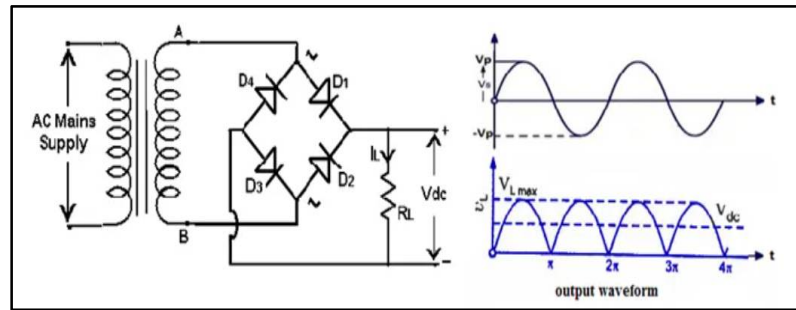

Fig.2.7: Bridge rectifier
- The single secondary winding is connected to one side of the diode bridge network and the load (R_L) to the other side as shown in fig.2.7.
- During the positive half cycle of the supply, diodes D_1 and D_3 conduct in series while diodes D_2 and D_4 are reverse biased and the current I_L flows through the load (R_L) is as shown in fig.2.7.